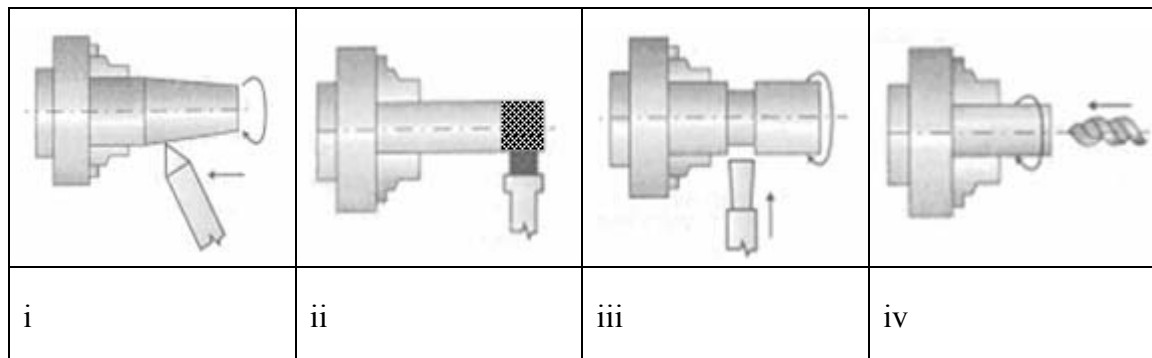

Figure 2
5. Figure 2 shows the types of lathe machine process. Name the process in the boxes provided.